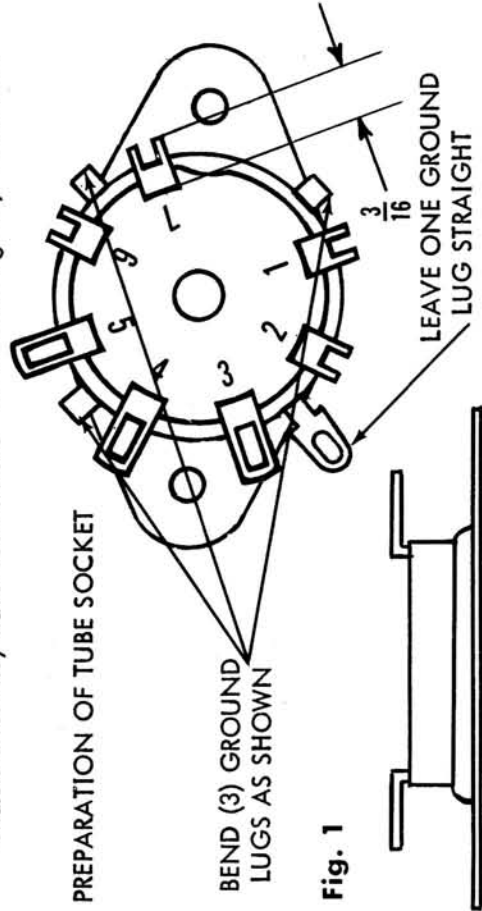

Fig. 1
Various proper methods of coupling are shown in Fig. 1. In any case, greatest frequency accuracy can be achieved by using the loosest possible coupling that gives sufficient indication.
- ( ) 1. Fig. 1. On the metal saddle, you will find four lugs which can be used for grounding purposes. In the bakelite portion, you will find seven pins, each numbered in clockwise sequence. Place the socket on table, with the seven pins up towards you. Look straight down on the socket. Each ground lug, although physically closer to the table than the tube pins, is located between two of the pins. Thus one ground lug is between pins 2 and 3, a second ground lug is between pins 4 and 5, etc. Bend the ground lug that is located between pins 2 and 3, so that it is facing straight out, parallel to the table. The three other ground lugs are bent down against the metal socket saddle, so that they are pointing towards the table.
- ( ) 2. Fig. 1. Position the socket as in step 1, flat against the table, with the seven pins pointing upwards, towards you. Bend the seven pins back, away from the center of the socket, so that they are all parallel to the table, and are against the bakelite portion of the socket. When this operation is completed, the pin numbers are clearly visible. Note that they are not to be bent down towards the table or short against the saddle.
- ( ) 3. Fig. 1. Cut the lugs #1, #2, #6 and #7 to  $3/16"$ . This is to be measured from the point of emergence of the pin from the bakelite. Keep the above pin lengths to the  $3/16"$ , or they will short against the panel and chassis after they have been wired. Do not cut lugs #3, #4 and #5.